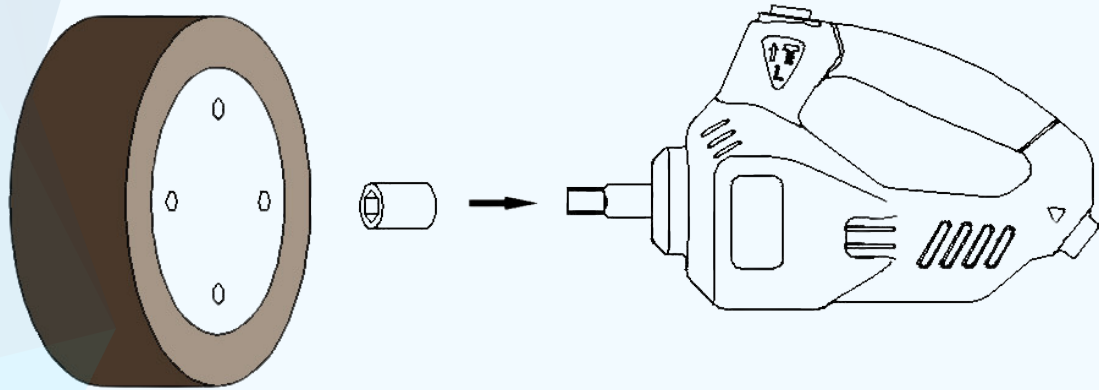

Figure 1
3. Choose the proper socket to the wrench's shaft. (check Figure 1)